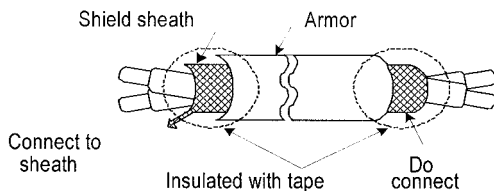

Figure 2-3-1: Processing the ends of twisted-pair cables
- (1) Separate the control circuit wiring from main circuit wiring (R/L1, S/L2, U/T1, V/T2, W/T3) and other high-power lines to avoid noise interruption.
- (2) Separate the wiring for control circuit terminals Ra-Rb-Rc (contact output) from wiring for terminals MI0~MI5, FM, COM, MO+, MO-, and +15V, AIN, S+, S-.
- (3) Use the twisted-pair or shielded twisted-pair cables for control circuits to prevent operating faults. Process the cable ends as shown in Figure 2-3-1. The max. Wiring distance should not exceed 50 meter.